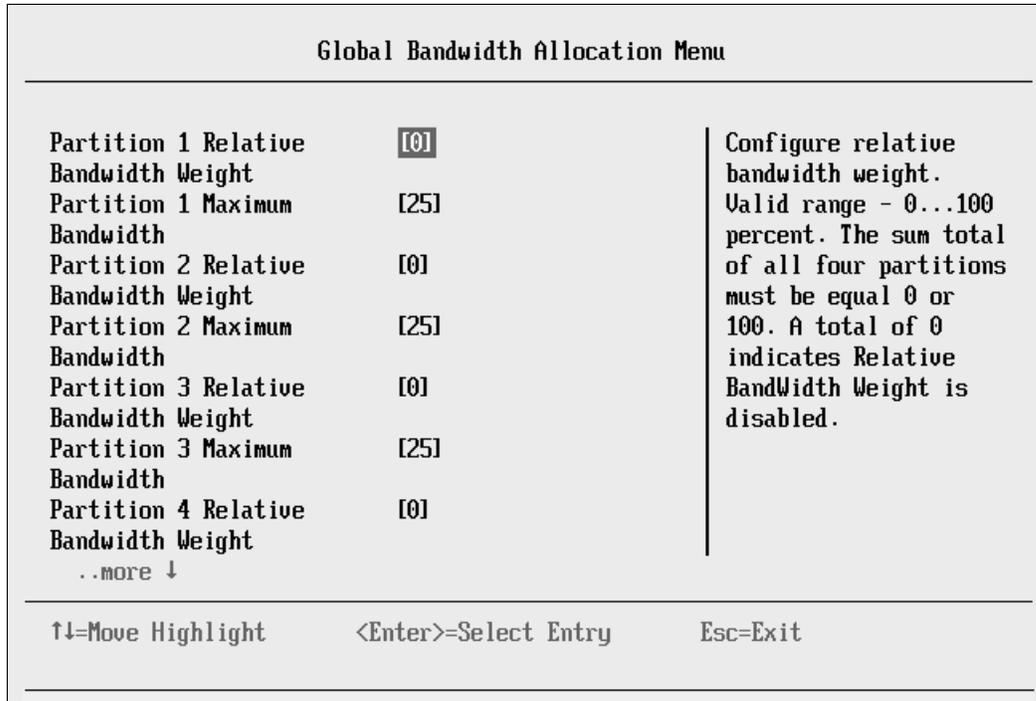

Figure 9-9 Global Bandwidth Allocation Menu panel
11. In the Global Bandwidth Allocation Menu panel (Figure 9-9), set the global bandwidth for each port. The total of all four partitions must equal 0 or 100. For our example, the relative bandwidth weight is 0, and our partition maximum is 25.